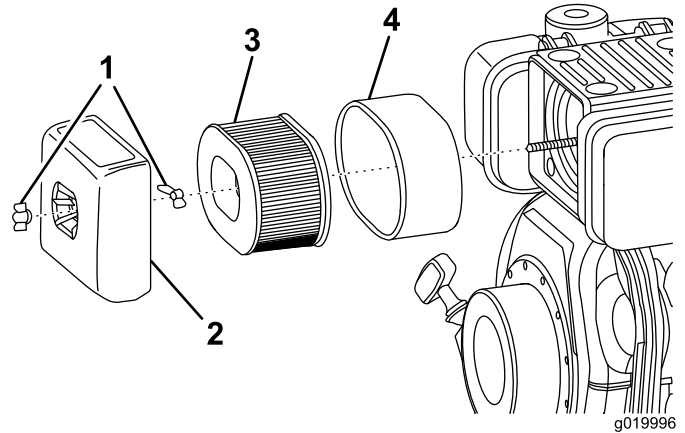

Figure 33
3. Remove the wing nut that secures the air-cleaner cover (Figure 33).
6. Remove the foam and paper elements from the base (Figure 33).
7. Remove the foam element from the paper element (Figure 33).